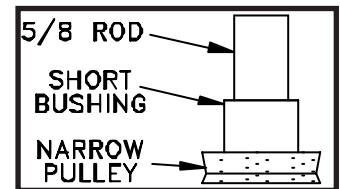
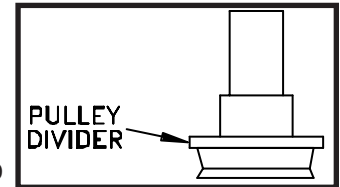

Figure 12
Figure 13
4. Set the tube aside and find the narrow pulley. Please note that the narrow pulley's groove is off center. Set the pulley on the bench with the groove oriented closest to the bench. (Figure 12&16) Insert the short bushing into the pulley and the 5/8 rod into the bushing. (Figure 13)
5. Place the pulley divider on the pulley. (Figure 13) NOTE: The pulley divider is NOT square. It is slightly wider one direction than the other. During use, the pulley divider must be oriented long side horizontal, to keep the cable from jumping between pulleys.